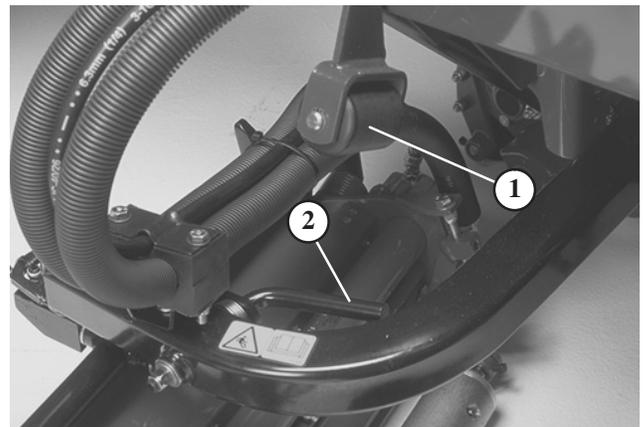

Figure 11
- Check adjustment of lock-up rollers (Fig. 11). When properly adjusted, they will contact the lock-up levers on rear lift arms and support the cutting units when fully raised.